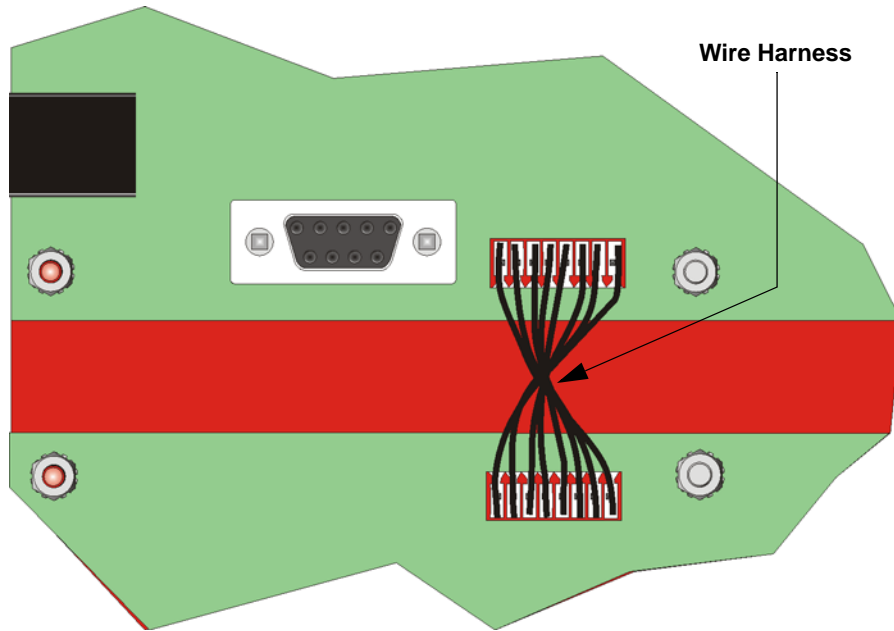

Figure 3-14 Wire Harness Connection
6. Connect one end of the wiring harness (P/N 130398 supplied) to the VIP-VCM and the other end to the VIP-SW16 as shown in Figure 3-14.